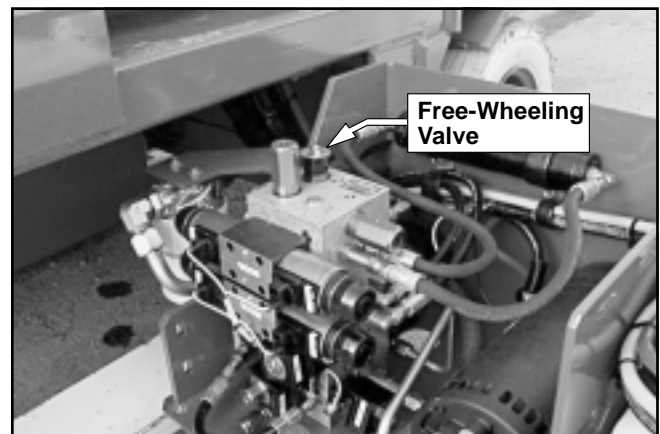

Figure 11.3—Free-Wheeling Valve
4. Unlatch and swing out the hydraulic tray. The free-wheeling valve is located on the hydraulic manifold (refer to Figure 11.3). Turn the free-wheeling valve counterclockwise to a fully opened position. Close the tray.